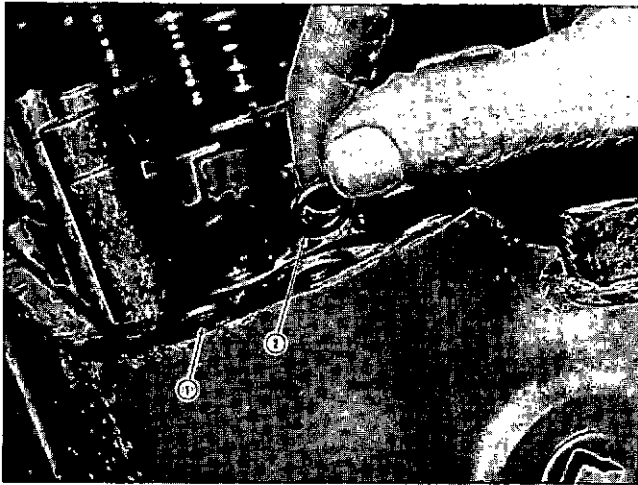
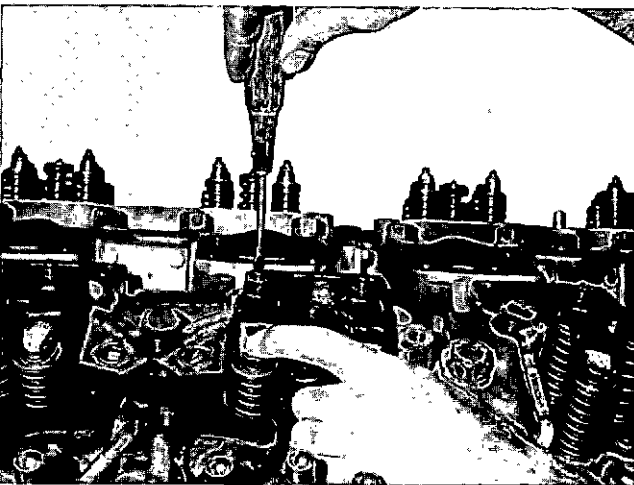

Fig. 14-1-65, V414162. Oil restrictor plug and "O" ring
Fig. 14-1-66, V414163. Adjusting valve crosshead screw
2. Check to see that oil restrictor plug in top head surface is flush or below (1, Fig. 14-1-65).
3. Install "O" ring seal (2) around restrictor plug.
4. Position all crossheads over valves so adjusting screw is over valve in exhaust side of cylinder head. Fig. 14-1-66.
5. Hold crosshead so it is seated on valve opposite adjusting screw and straight in guide. Fig. 14-1-66.